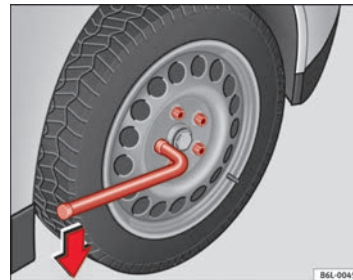

Fig. 145 Changing a wheel: loosen the wheel bolts
- Grasp the box spanner by the end turn it about one full turn to the **left** ⇒ Fig. 145.